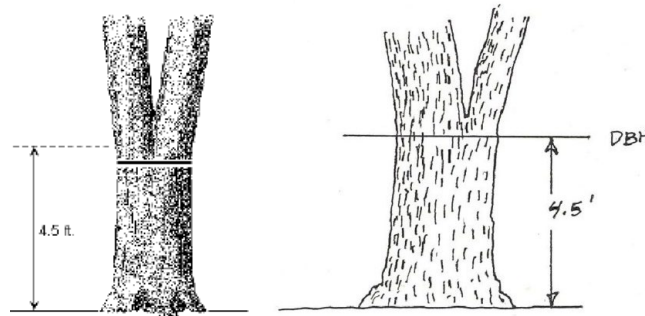

Figure 3 - Fork Occurs Above 4.5 Feet
- b. Trees forked at or above 4.5 feet: When a tree forks at or above 4.5 feet, consider as one tree and record the smallest diameter at 4.5 feet or below (Figure 3).